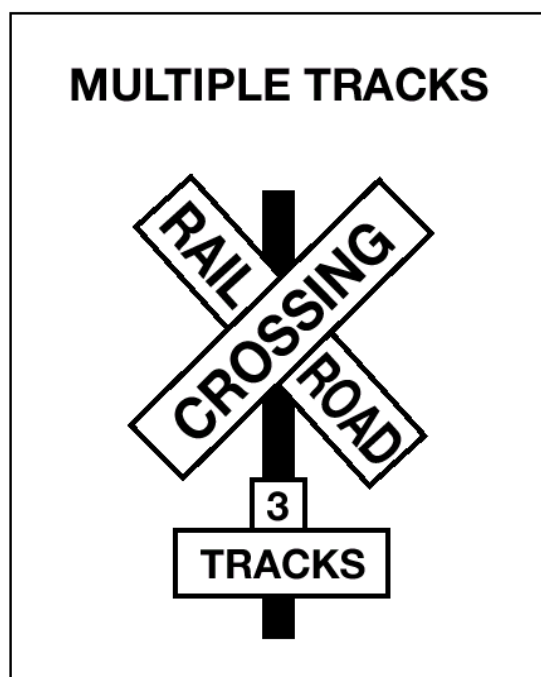

Figure SB. 7
**Crossbuck Signs.** This sign marks the crossing. It requires you to yield the right-of-way to the train. If there is no white line painted on the pavement, you must stop the bus before the crossbuck sign. When the road crosses over more than one set of tracks, a sign below the crossbuck indicates the number of tracks. **See Figure SB.7.**